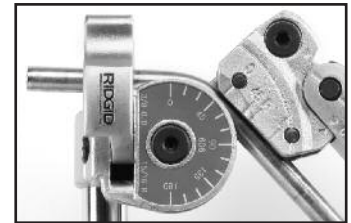

Figure 5
5. Rotate the Carriage Handle around the Form until the “0” Line on the Carriage aligns with the desired degree of bend on the Form (Figure 5).